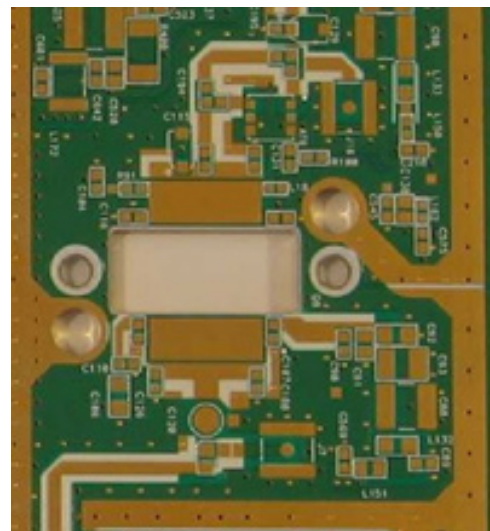

FIGURE 3: Solder Mask Border
2. The recommended way for solder attachment is to screen print Sn63 solder onto the solder lands prior to installing the transistor in the well with a 0.015" thick stencil. It is also desirable to put a 0.05-0.010" wide strip of solder mask along the edge of the transistor well to prevent solder from falling into the well. Figure 3 shows the solder mask border around the solder pad for the transistor leads. The solder paste can be applied manually using a syringe if using a stencil is not an option. The solder paste needs to cover the entire